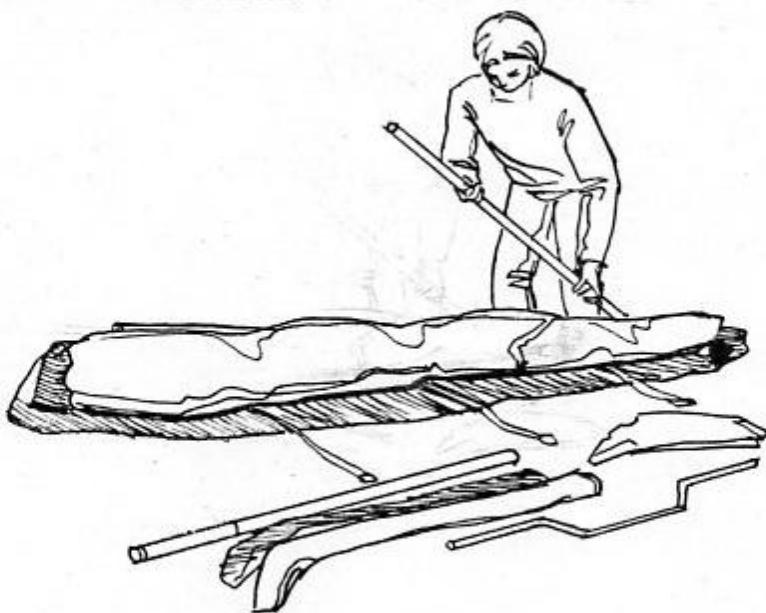

Fig. 3.3.2.
2. Undo the zipper. Remove the velcro straps. Remove the battens in the bags, the speedbar, the nose cone and the N3 leading edges (Fig. 3.3.2).